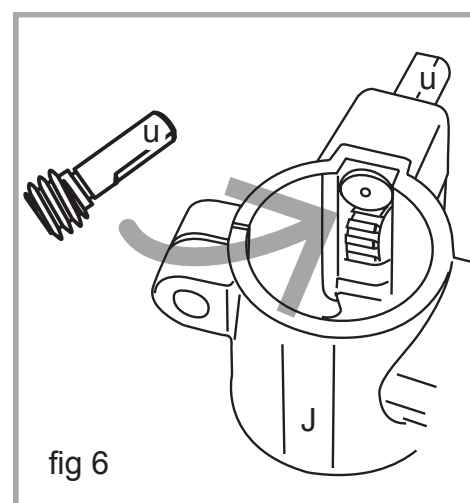

fig 6
- If not already installed, insert the worm shaft (u, fig 6) through the center hole of the table support (J, fig 6) and out through the crank handle hole as shown at right. The worm shaft should extend outside the housing about 1" (25 mm).